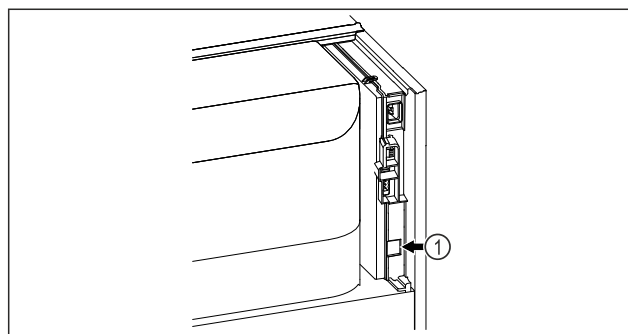

Fig. 129
- ☐ SmartModule Fig. 129 (1) is in use.